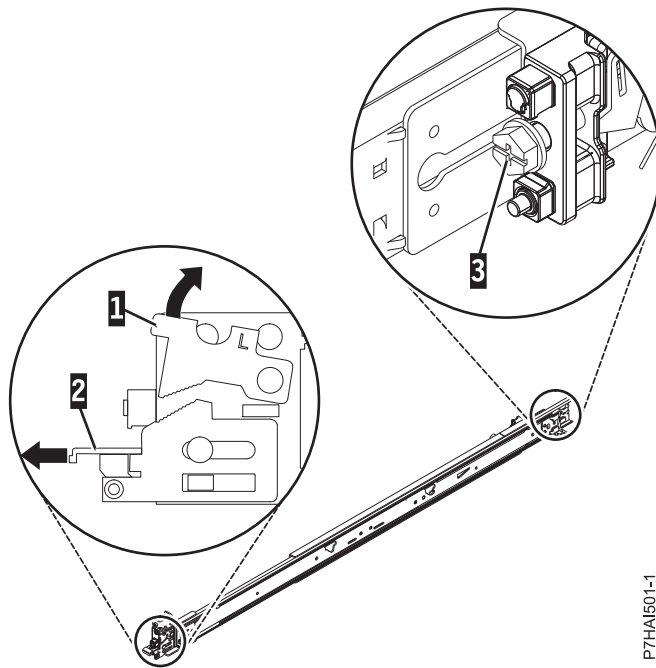

Figure 2. Opening the front latch and removing the rear screw
2. Remove the screw from the rear of the rail (3). Push up on the locking tab (1) on the front, and pull out the front latch (2) at the front of the rail. For details, see Figure 2.